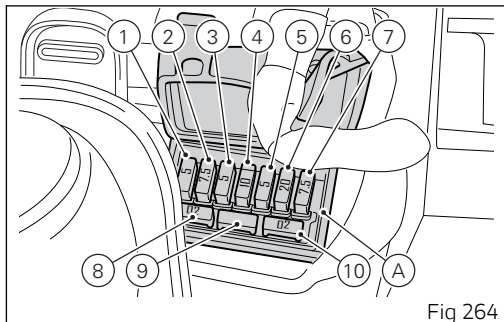
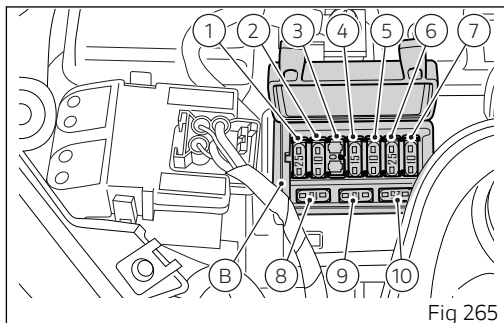

Fig 264
Fig 265
Refer to the table below to identify the circuits protected by the various fuses and their ratings. The front left fuse box (A, Fig 264) and the front right one (B, Fig 265) are located above the battery. To access the fuses, remove the tank cover (page 293).
The main fuse (C) is located on the right side of the fuse box (B , Fig 265)on solenoid starter (D). To access it, remove the tank cover (page 293) and the fuse cap (E). A blown fuse is identified by the interrupted center link (F).